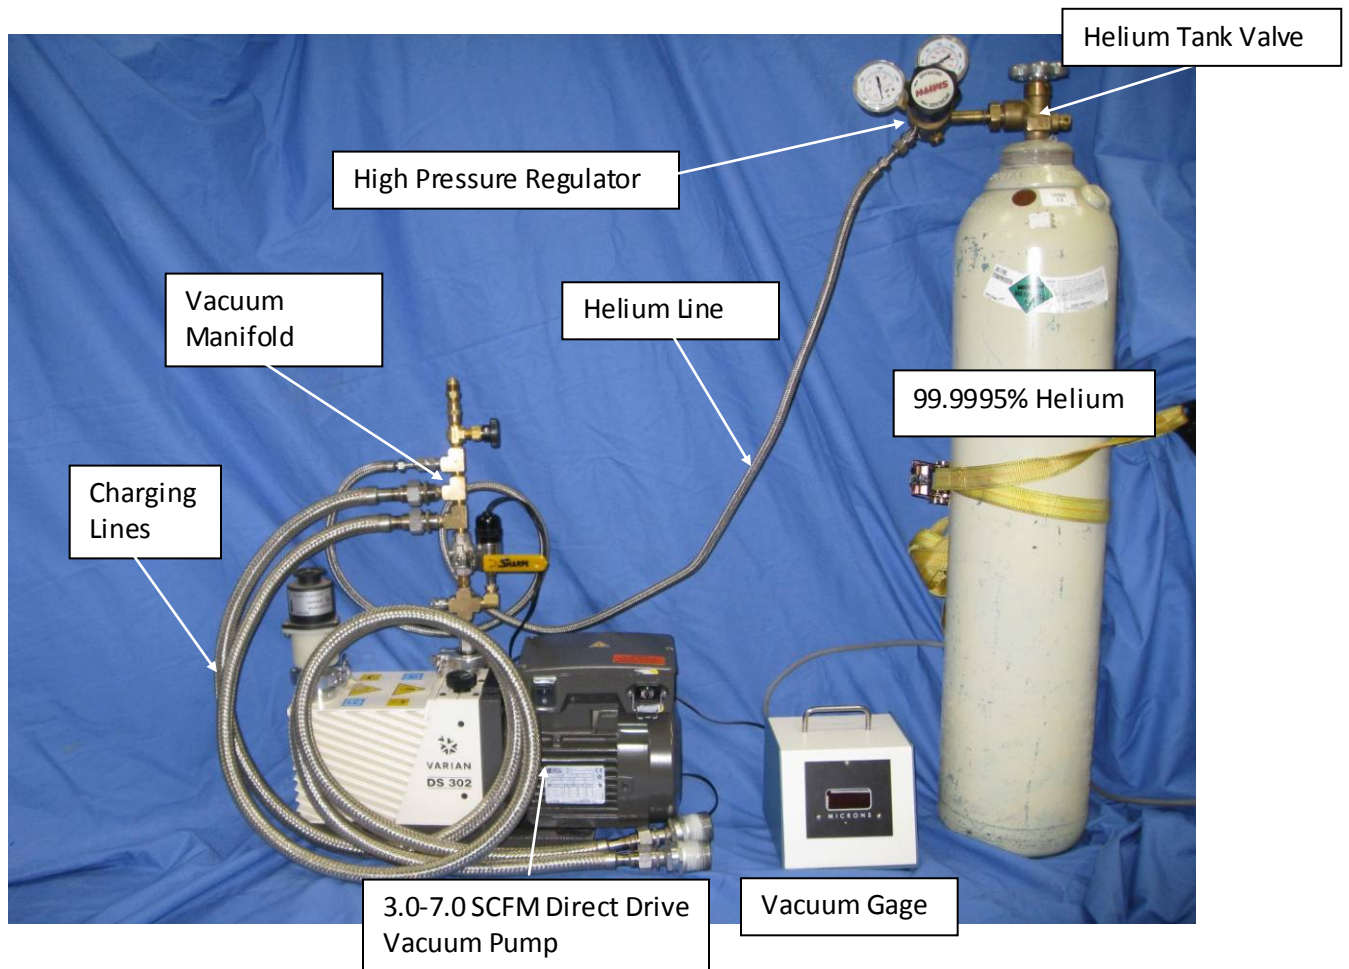
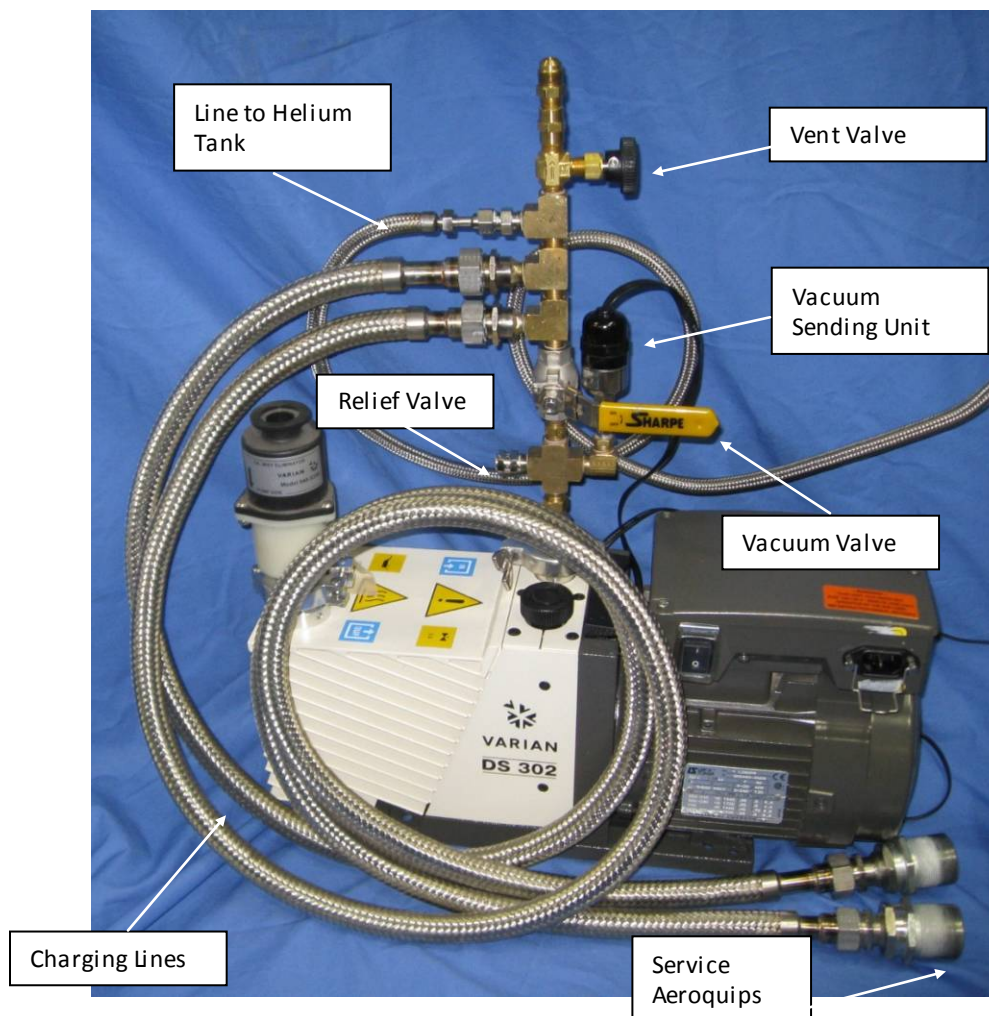

Figure 8-3: Vacuum/charging system
Figure 8-4: Close up of vacuum/charging manifold and pump
- 3) Attach a charging line from the service Aeroquip® to a typical vacuum/charging system as shown in Figure 8-3 and Figure 8-4 below.